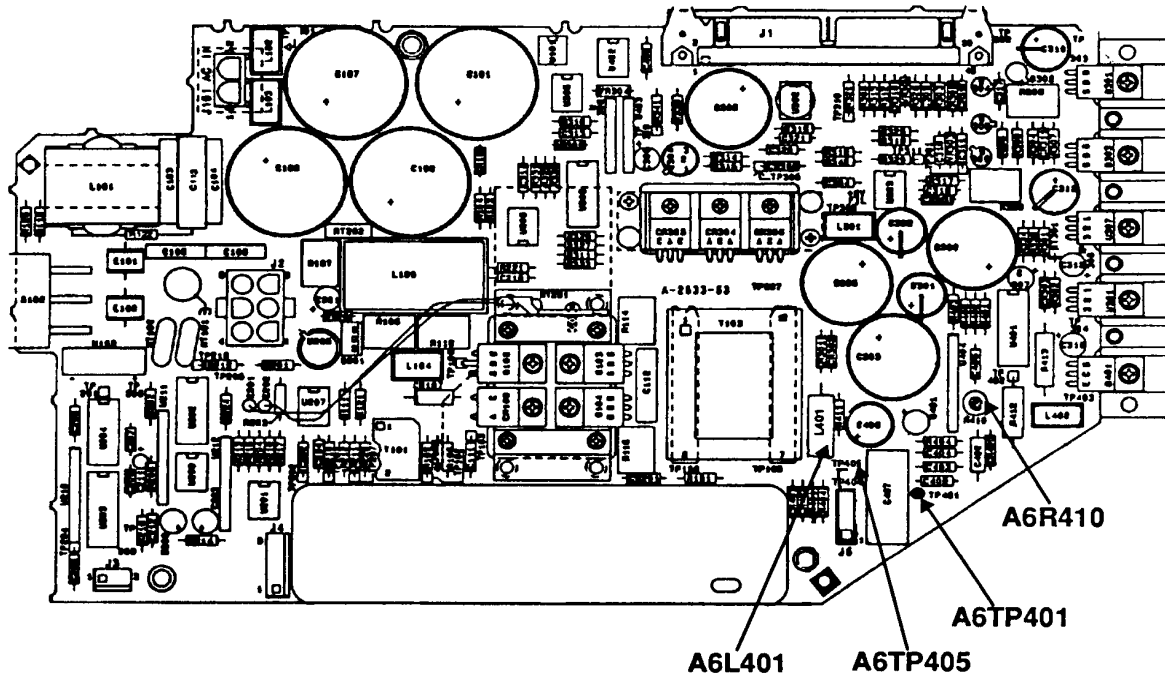

Figure 7. Power supply location sheet.
- (2) Remove A6 power supply cover.
- (3) Set multimeter to measure 1000V dc.
- (4) Connect multimeter **INPUT HI** to A6TP405 (fig.7) and **INPUT LO** to A6TP401 (fig. 7).
- (5) Record dc voltage marked on A6A1 HV module (located at TI top).
- (6) Note the value of inductor A6L401 (fig. 7). If A6L401 (fig. 7) is 10 mH, perform (7) and (8) below. If A6L401 (fig. 7) is 20 mH, perform (7) and (9) below.
- (7) Press TI **LINE** switch to **ON**.
Perform (8) below **ONLY** if A6L401 (fig. 7) is 10 mH.
- (8) If multimeter does not indicate a dc voltage equal to 2 V above the dc voltage recorded in (5) above, perform **b(1)** below.
Perform (9) below **ONLY** if A6L401 (fig. 7) is 20 mH.
- (9) If multimeter does not indicate a dc voltage equal to the dc voltage recorded in (5) above, perform **b(2)** below.
- (10) Press TI **LINE** switch to **OFF**.
- (1) Adjust A6R410 (fig. 7) for a dc voltage equal to 2 V above the dc voltage recorded in (5) above (R).
(2) Adjust A6R410 (fig. 7) for a dc voltage equal to the dc voltage recorded in (5) above (R).